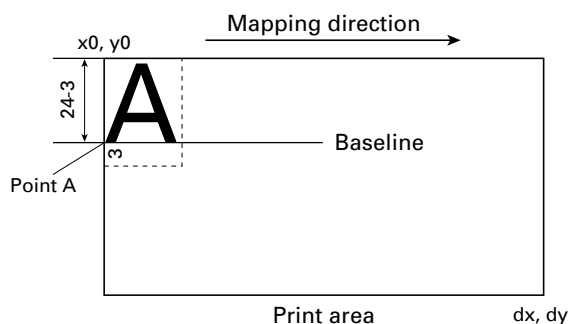

Figure 4-1 Mapping Position for Character Data
- (1) The print area is set by ESC W. When the printer has finished all of the print and paper feed actions specified before receiving an ESC W, the ESC W sets the right end (as viewed facing the printer) as the start point (x_0, y_0) of the print area. The print area is a rectangle defined by two edges extending from the start point (x_0, y_0): one edge running in the "x" (Horizontal) direction by "dx" pitch (inclusive of the start point), and the other running in the "y" (Vertical) direction by "dy" pitch. (If no ESC W is defined, the default values are used to define the print area.)
- (2) With a print area defined by ESC W and a print direction specified by ESC T, when the printer receives print data, the print data is mapped in the print area where point A (see the Figure 4-1 "Mapping Position for Character Data") is used as the initial value of the start point. If the print data consists of characters, this start point serves as the baseline.